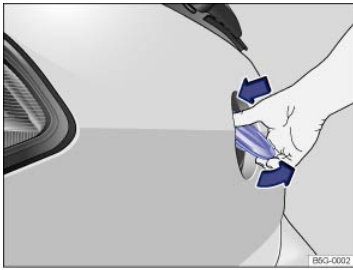

Fig. 62 Opening the trunk lid from the outside.
- To open the trunk lid, press the top of the Volkswagen emblem with your thumb ⇒ Fig. 62 and move the top of the emblem down. Then grasp the bottom part of the emblem and pull upward to lift the trunk lid.